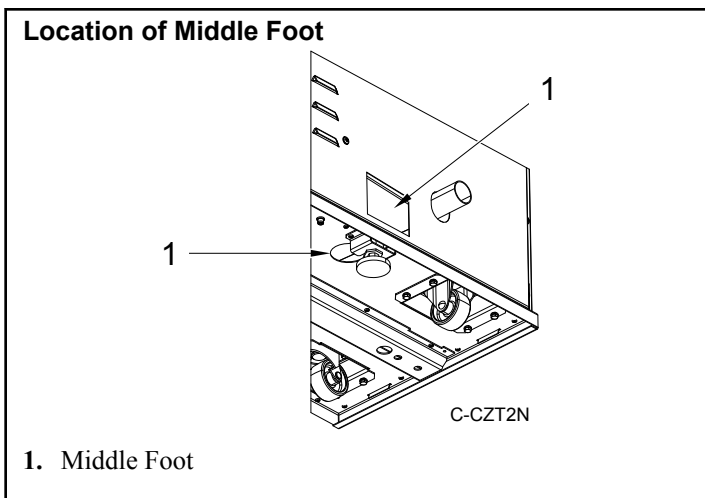

Figure 21
5. Remove the middle foot of the heat pump base. It is not necessary to dismantle the rear cover. Refer to *Figure 21* .